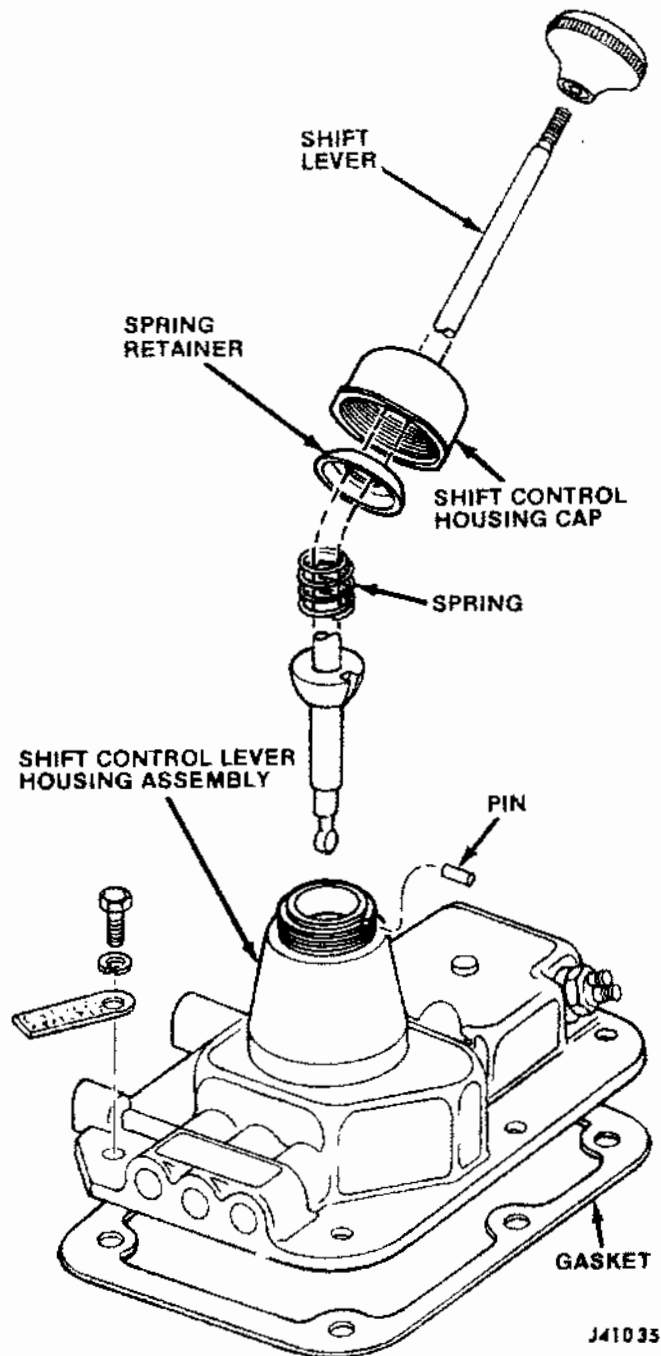

Fig. 6-2 Shift Control Lever Housing Assembly Removal - 4-Speed Transmission
- (4) On four-speed models, remove shift control housing cap, spring retainer, spring, shift lever, and pin (fig. 6-2).
- (5) Remove transfer case shift lever and bracket assembly.
- (6) Raise vehicle.